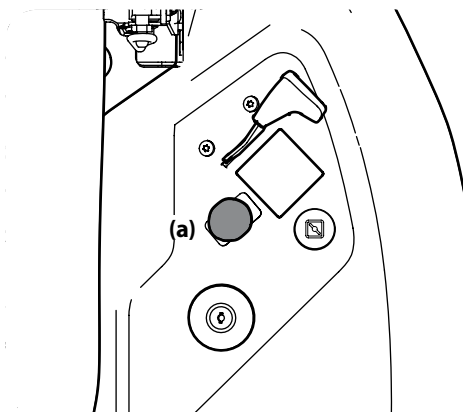

Figure 3-13
2. Pull the PTO switch (a) up/out into the engaged (ON) position. See Figure 3-13.